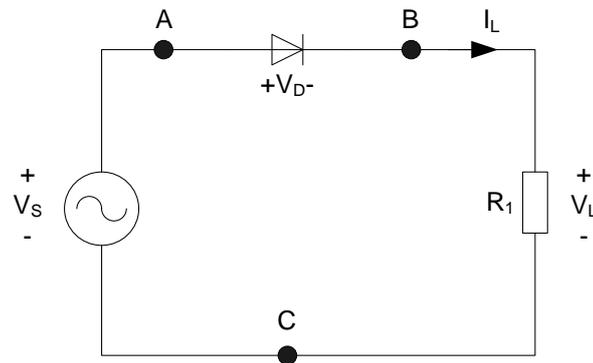

Figure 1: Half wave rectifier circuit
- Build and connect up the half-wave rectifier circuit as shown in Figure 1, where $R_1 = 10\text{k}\Omega$. Switch on the scope, and prior to making any connections, use the AUTO SET button to initialize both channels.
- **Questions:** Based on your observations from this Section (3.1), explain why the circuit you constructed performs *half wave* rectification? Explain what would happen if you placed a capacitor in parallel with the resistor R1 in Figure 1. What does the waveform look like now? Draw it in your lab handbook.